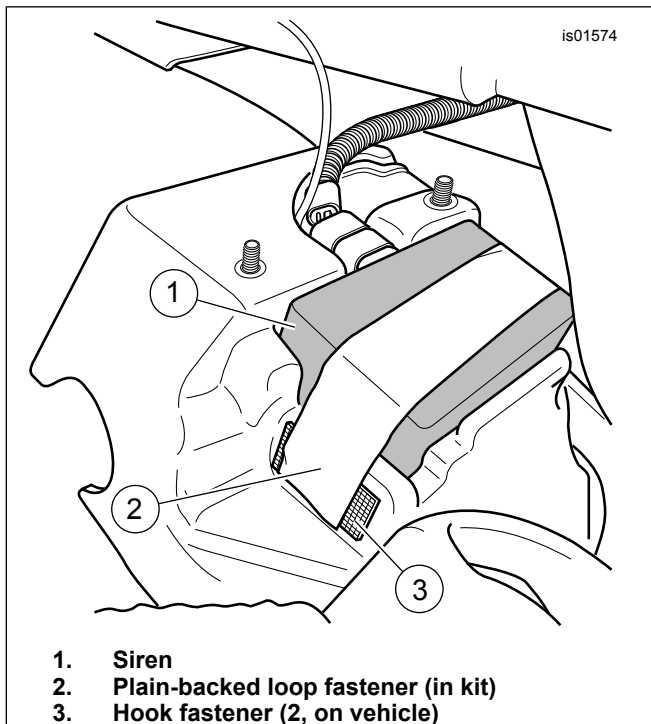

Figure 5. Secure Siren Box (2002-2006 VRSCA/B/D Models)
7. With the sounder disc (3) facing the mud flap, position the siren on the mud flap as shown in Figure 5. Make sure that the pager antenna lies in the groove alongside the connector and is not pinched. Secure the siren (1) to the existing hook fasteners on the mud flap with the plain-backed loop fastener (2) from the kit.